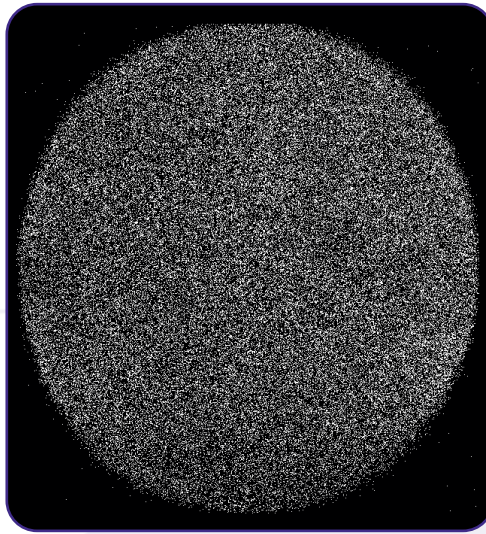

Figure 4: Example for DLD image of accumulated dark counts.
- Accumulate the dark counts for several minutes. The DLD image should appear homogeneous and sharply bounded (see **Figure 4** for an example).